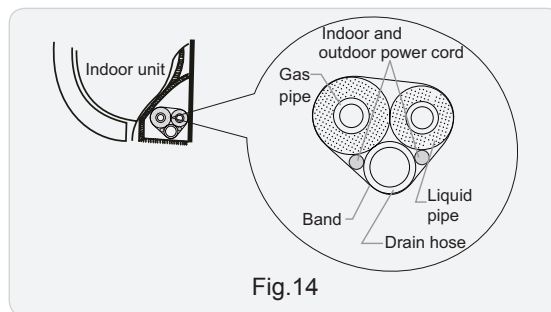

Fig.14
- (1) Bind up the connection pipe, power cord and drain hose with the band. (As show in Fig.14)